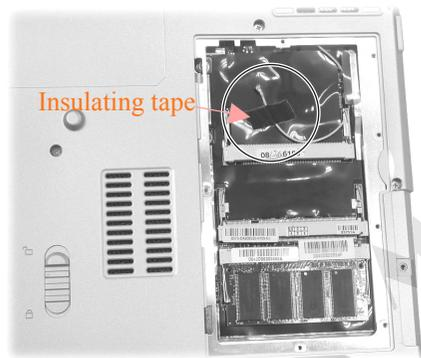

Figure 2-16 Peel of the insulating tape
3. Rip the insulating tape off to free the antenna that near the Mini-PCI socket.(Figure 2-16)